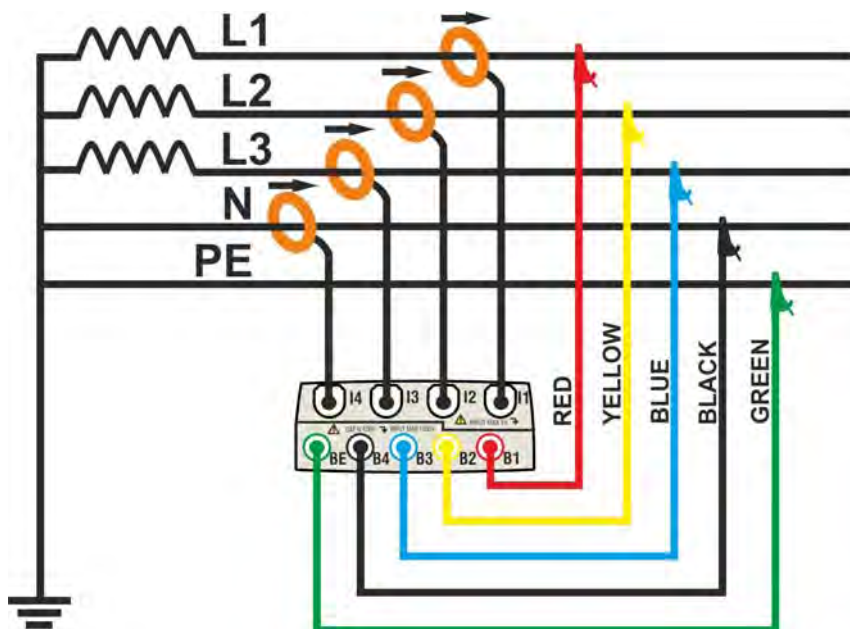

Fig. 133: Meter connection in a three phase 4WIRE system – ENG\_UK type
2. Connect voltage test leads on Phases L1, L2, L3, Neutral and Ground cables considering the colours as shown in Fig. 133. **Verify the result “123” at display relative to a correct phase sequence indication** (see § 5.2.1) and perform the corrections if necessary.